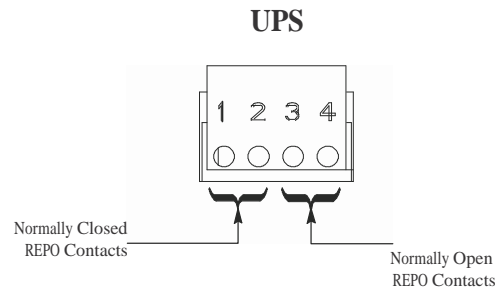

Figure 4-13. REPO Terminal Block Connector Assignments
**NOTE 4** This procedure is intended for installing the Eaton-supplied REPO switch. If installing another manufacturer's switch, use this procedure, and Figure 4-13 and Figure 4-14 as a guide.